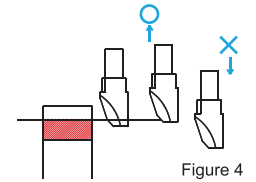

Figure 4
- Compensate towards X plus direction if remaining burrs has occurred at fillet(root). (Figure 4)